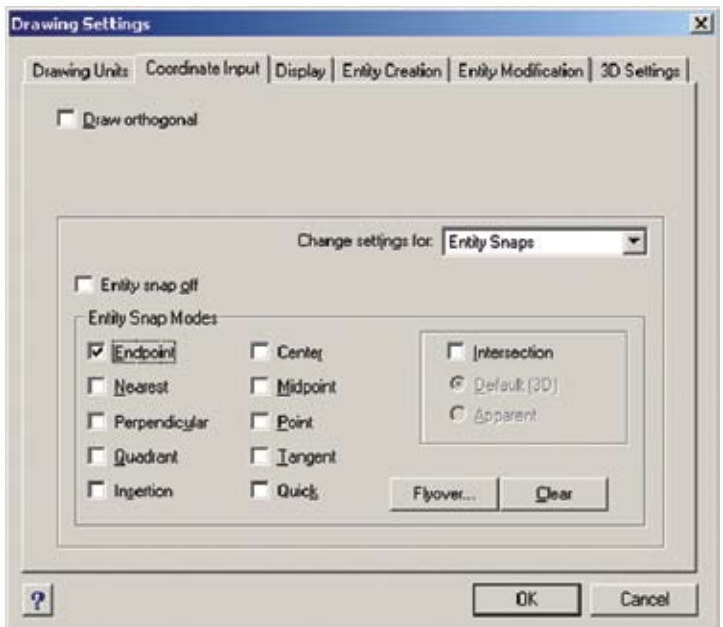

Figure 3.1
- The same Drawing Settings dialog box that we used to set Snap and Grid appears, except that it is now displaying options for entity snaps. See Figure 3.1.